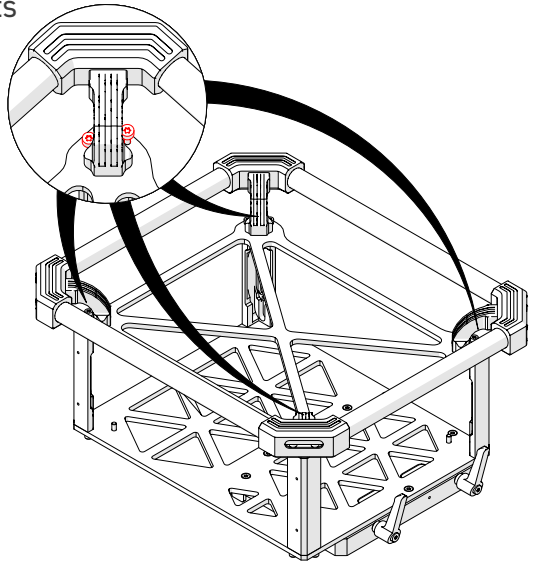

Fig. 88 - Loosen eight top half screws
1. Using the T25 TORX driver, loosen the eight captured screws at the corners of the top half of the instrument box frame (Fig. 88).